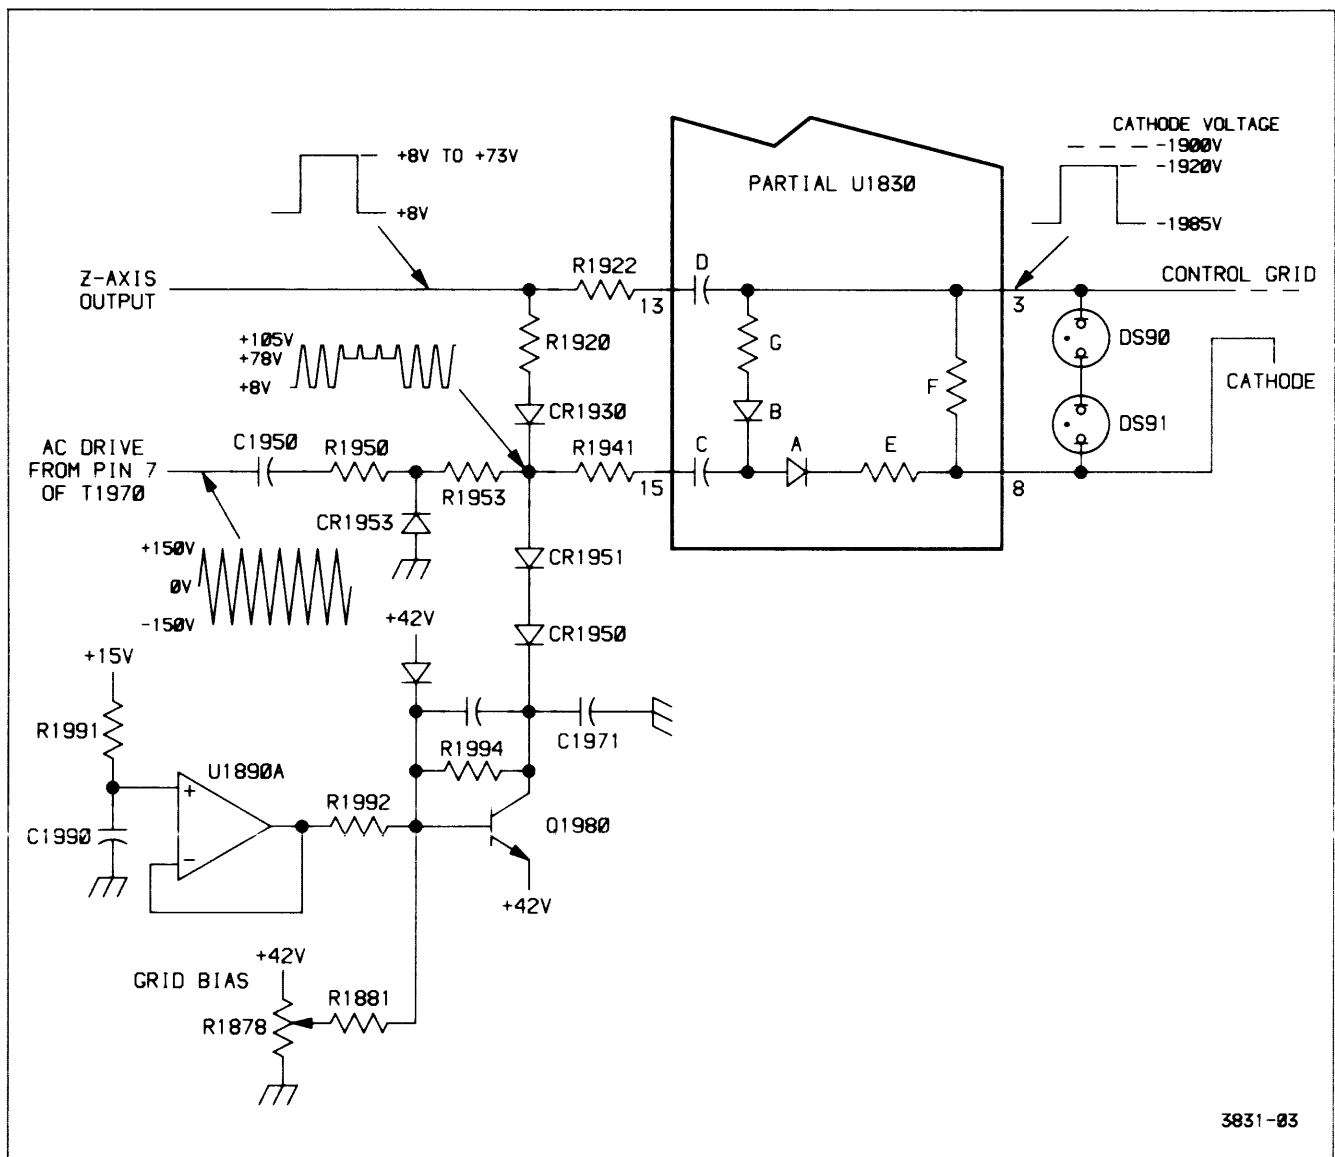

Figure 3-10. Dc Restorer circuit.
The DC Restorer circuit (Figure 3-10) operates by impressing the crt grid bias setting and the Z-Axis drive signal on an ac voltage waveform. The shaped ac waveform is then coupled to the crt control grid through a coupling capacitor that restores the dc components of the signal.
**DC RESTORATION.** The DC Restorer circuit in the High Voltage Module is referenced to the crt cathode voltage via a connection within U1830. Capacitor C (in Figure 3-10), connected to pin 15 of U1830, initially charges to a level determined by the difference between the Z-Axis signal level and the crt cathode potential. The Z-Axis signal sets the level on the positive plate of capacitor C through R1920, CR1930, and R1941; the level on the negative plate is set by the crt cathode voltage through resistor E and diode A. Capacitor D is charged to a similar dc level through resistor F and R1922.